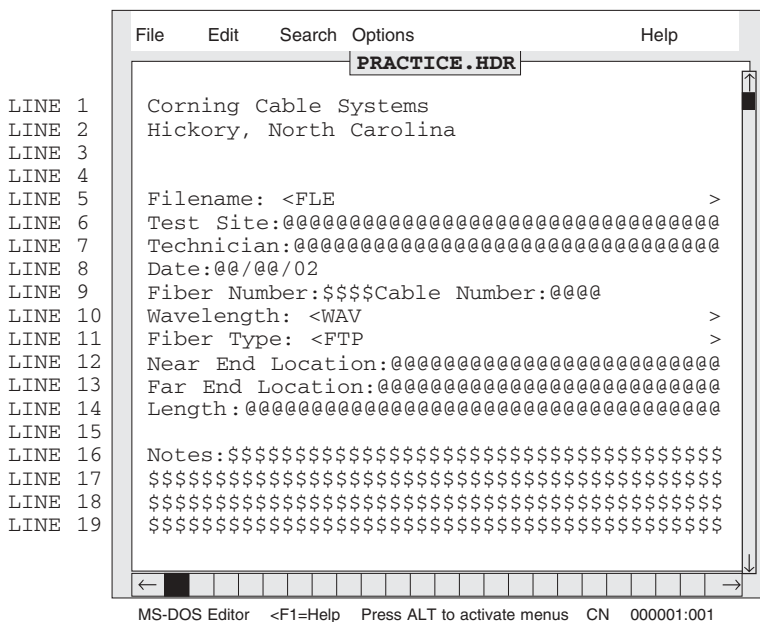

Figure 3-6: Custom Header Template Screen
- The symbols “<” and “>” indicate the start (<) and end (>) of an Auto Field (see Figure 3-6 on page 35).